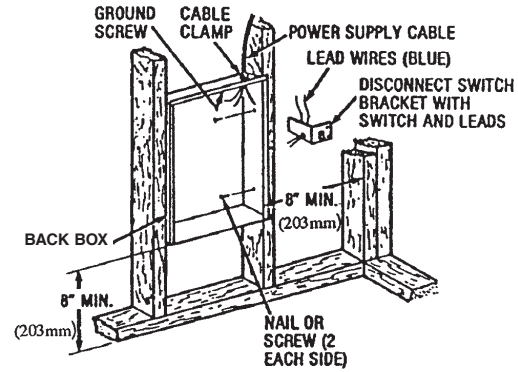

Fig. 1: Locating Recessed Back Box in New Construction
3. Power supply must enter back box through the knockouts in the RIGHT side of box(see Figure 1). See also TOP marking on the back box for proper orientation.
1. Mounting Back Box (See Figure 1).
- c. Secure the back box in position with wood screws or nails as shown in Figure 1.
2. Power Supply Wiring (See Figure 1)